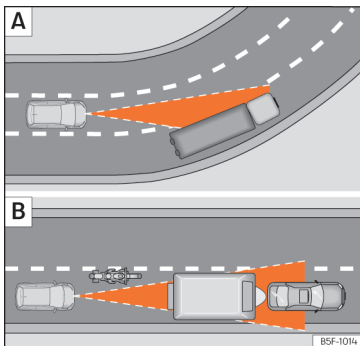

Fig. 118 **A** Vehicle on a bend. **B** Motorcyclist ahead, out of range of the radar sensor.
The ACC may not detect the vehicle in front on a curve, or may regulate the distance from vehicles in other lanes >>> **Fig. 118 A**.
- Vehicles that are not aligned while driving or that are outside the sensor's detection area, such as motorcycles >>> **Fig. 118 B**.